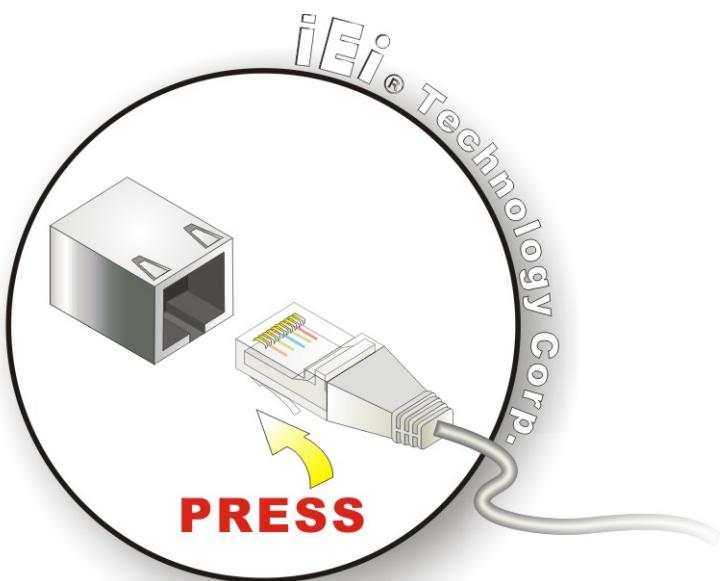

Figure 4-16: LAN Connection
Step 2: Align the connectors. Align the RJ-45 connector on the LAN cable with one of the RJ-45 connectors on the NANO-QM57A. See Figure 4-16.